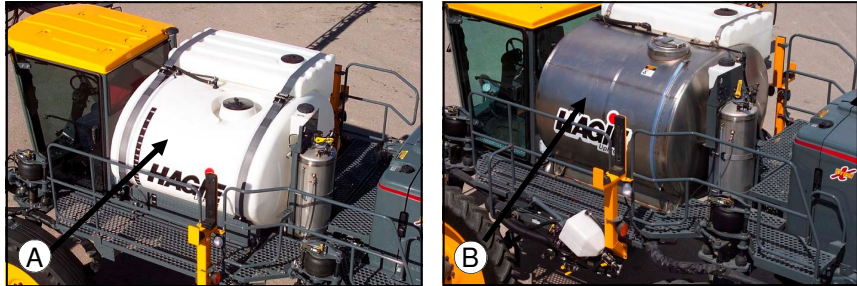

FIG. 63-1
**SOLUTION TANK**— You have the option of the poly tank (fig. 63-1, item A) or the stainless steel tank (fig. 63-1, item B), both are 1000 gallon capacity. Their functions are similar, the only notable difference being the plumbing of the tanks. The poly tank has an eductor type agitation system and the stainless steel tank has a sparge type agitation system.